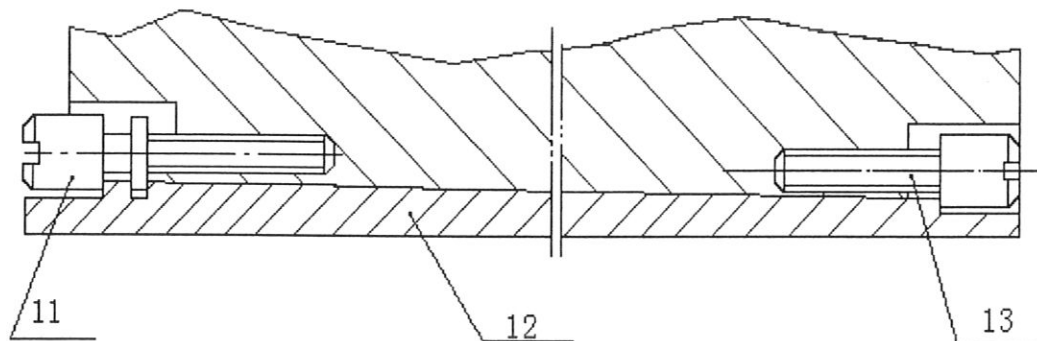

Fig. 28 Clearance adjustment between working table and slide guide-way
7.7 Clearance adjustment between working table and slide guide-way(see Fig.28)